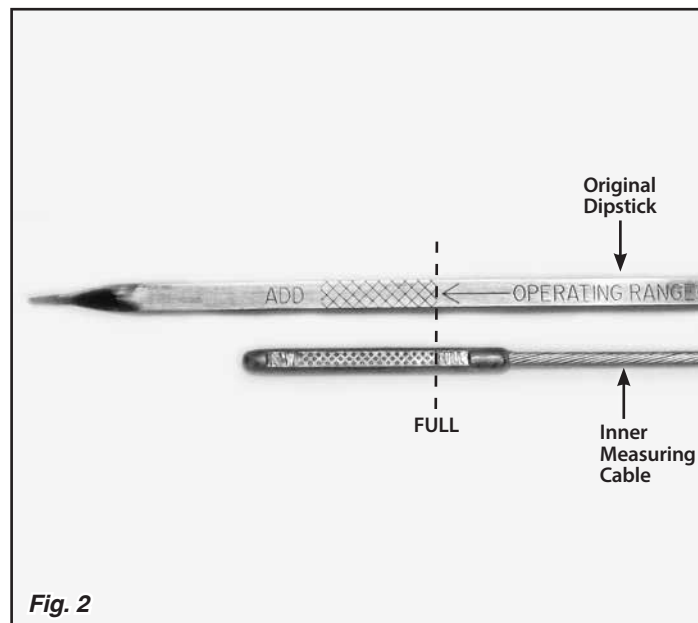

Fig. 2
**Step 4:** Lay the inner measuring cable on a flat surface, and lay your original dipstick beside it. Align the "FULL" mark on the new inner measuring cable with the "FULL" mark or the top of the "OPERATING RANGE" on your original dipstick. Fig. 2